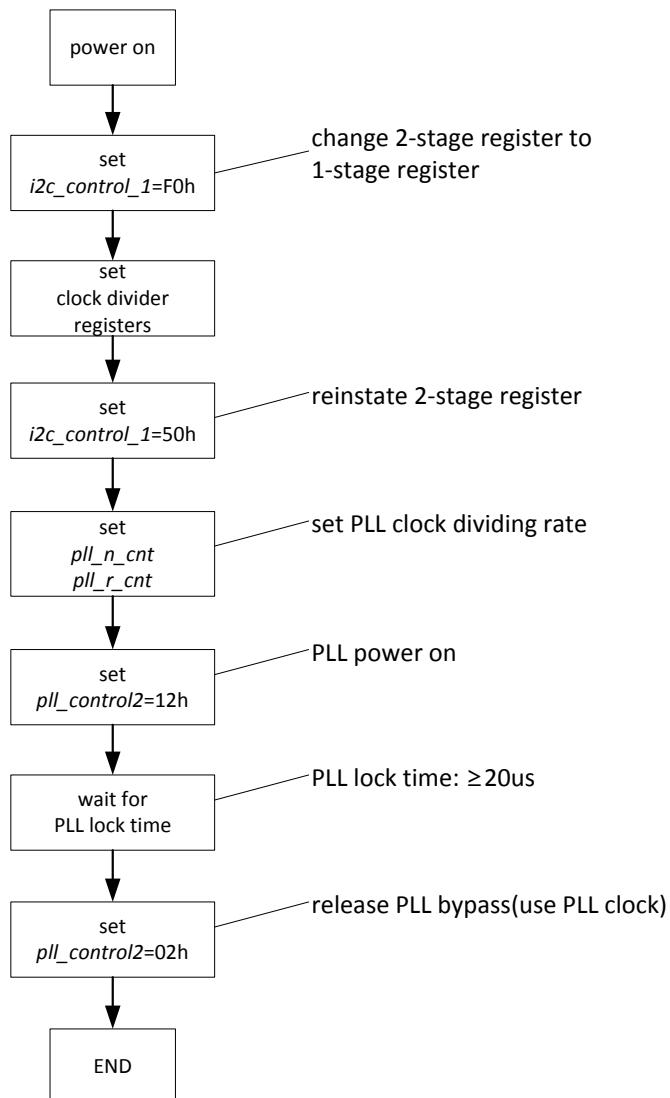

Figure 14 Clock setting sequence
- When using PLL, set-up sequence shown in Figure 14 is necessary.